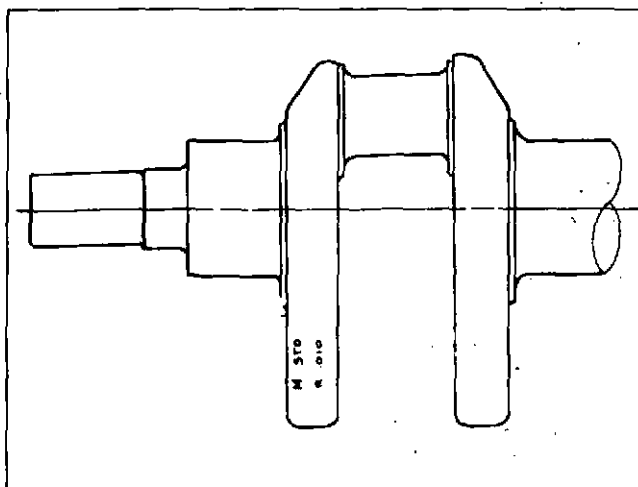
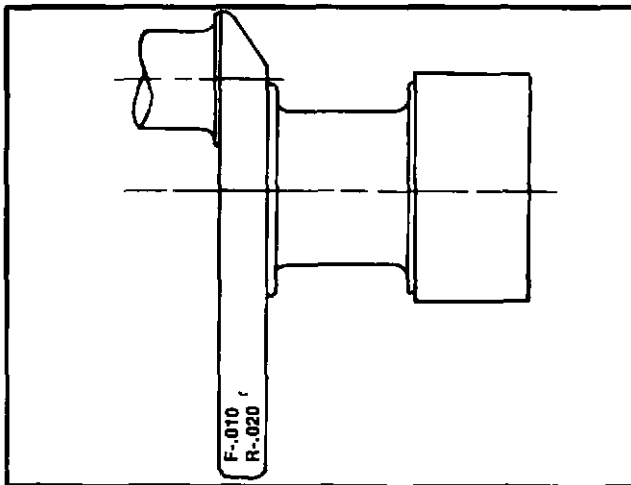

Fig. 1-51 (V50138). Marks To Show The Size Of The Main And Connecting Rod Journals.
Fig. 1-52. Marks To Show The Size Of The Thrust Surfaces.
- Put a mark on the crankshaft when you grind it. This will show the correct size for the main and connecting rod bearings. Include on the identification both the thrust ring size and the location of the ring. See Fig. 1-51 and Fig. 1-52.
- Put a mark for the undersize main and connecting rod journal on the front counterweight. Put a mark for the oversize thrust bearing on the rear counterweight. Fig. 1-52 shows how to mark the counterweight.
Example of an identification mark, Fig. 1-52.